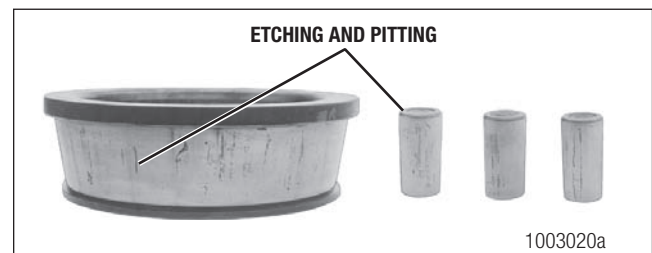

Figure 6.4
- The rollers and surfaces of the cup and cone inner race touching the rollers are damaged. Figure 6.4.